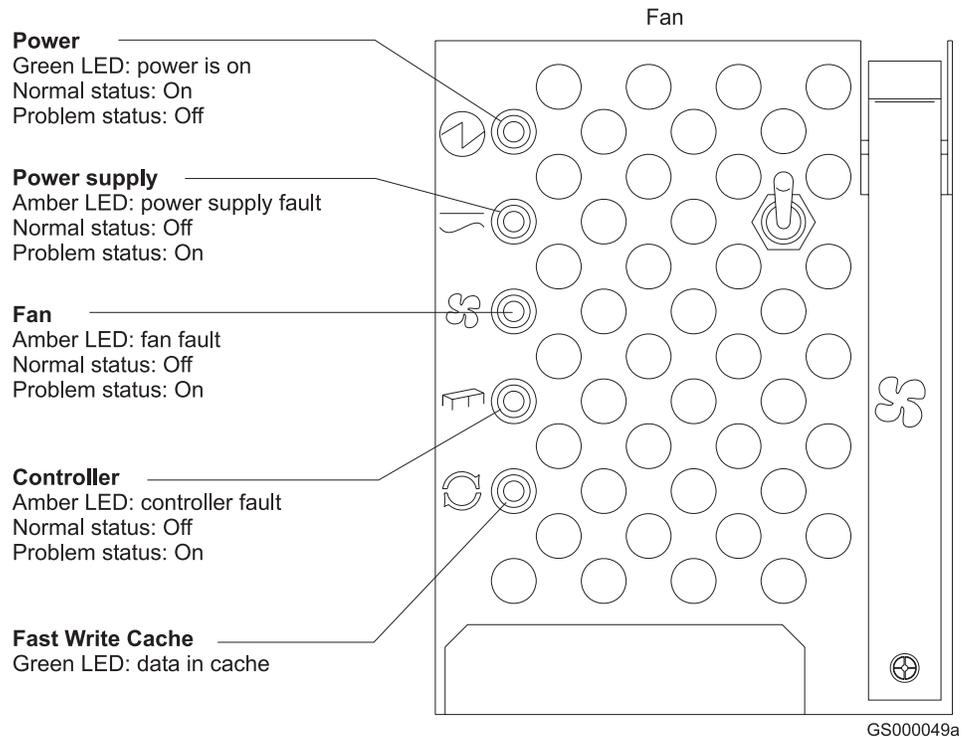

Figure 103. Storage subsystem LEDs
5. Check the Fan LED, located on the storage subsystem front bezel, as shown in Figure 103 on page 153.